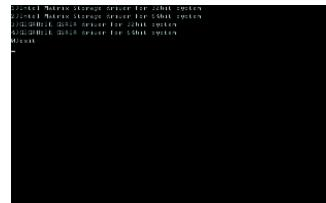

Figure 2
Step 2: When the controller menu (Figure 2) appears, remove the startup disk and insert the blank formatted disk. Select the controller driver by pressing the corresponding letter from the menu and press <Enter>. For example, from the menu in Figure 2, for Intel ICH10R SA TA controllers, select 1)Intel Matrix Storage driver for 32bit system for Windows 32-bit operating system or 2)Intel Matrix Storage driver for 64bit system for Windows 64-bit(Note 2). Your system will then automatically zip and transfer this driver file to the floppy disk. Press any key to exit when finished.
Use an alternative system and insert the motherboard driver disk. From your optical drive folder, double click the **Menu.exe** file in the **BootDrv** folder (Figure 3). A command prompt window will open similar to that in Figure 2.
(Note 2) The **GIGABYTE GSATA** drivers in the menu in Figure 2 are required if you want to install the Windows operating system onto hard drives that are connected to the **GIGABYTE SATA2/JMB322** controller and configured to AHCI mode in BIOS Setup. For installation of the driver during the OS installation, refer to section 5-1-4.